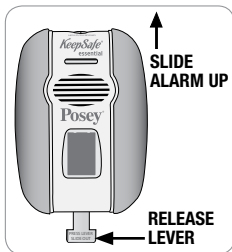

Fig. 16 - Alarm/Bracket (Front View)
5. To remove alarm, gently push release lever IN while sliding alarm up and out (Fig. 16). Make sure magnet and/or AC adapter cable can be secured out of the way and do not present a tripping hazard.